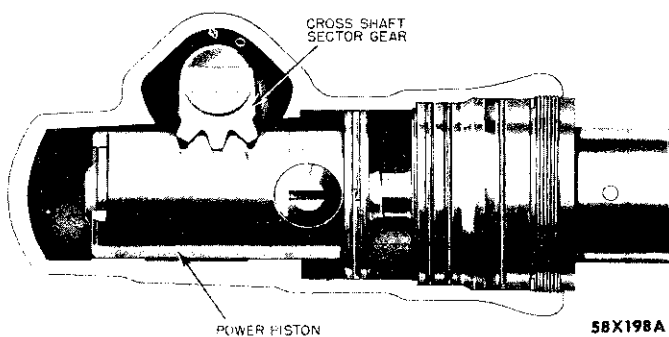
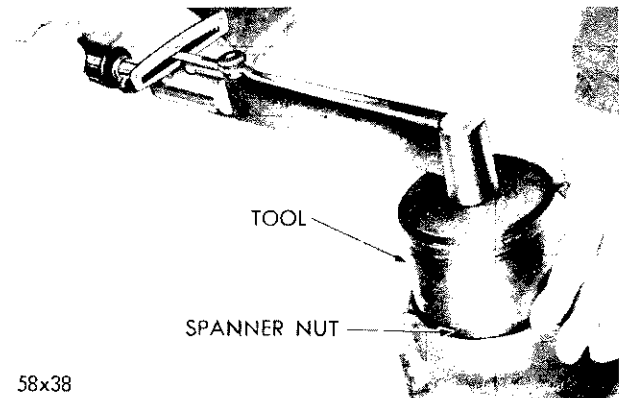

Fig. 14—Steering Gear Housing (Sectional View)
Fig. 27—Removing Steering Column Support Nut
(6) Rotate the worm shaft to the full right turn position, then return the worm shaft to the center of travel. This will place the piston in the center position (Fig. 14). Withdraw the gear shaft until the sector teeth clear the housing. Rotate the shaft 180 degrees and allow the ends of the teeth to rest on the housing.
(7) Turn the worm shaft to full right turn position to compress the power train parts and then remove the coupling.
(8) Remove the steering jacket support nut with Tool C-3634 (Fig. 27).